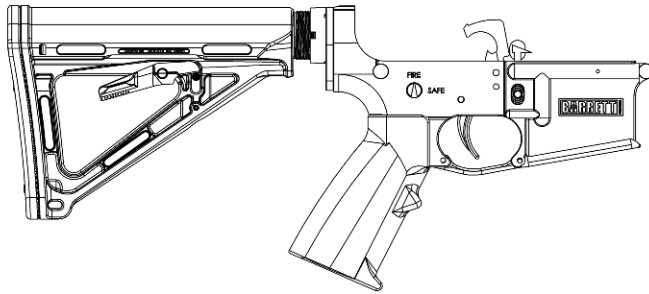

Figure 18-2
2. The lower assembly (Figure 18-2).